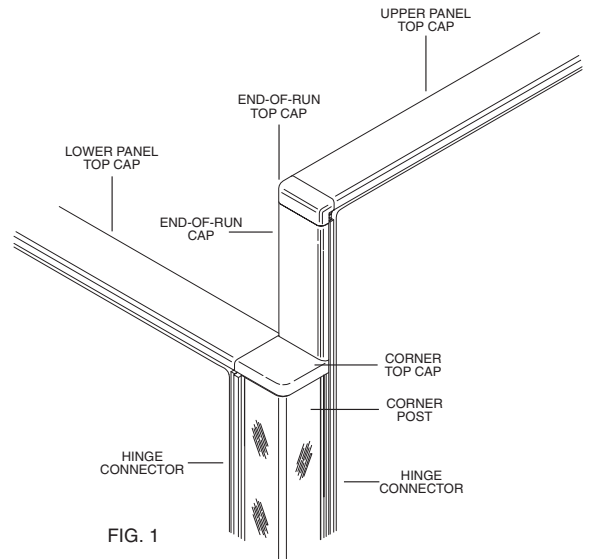

FIG. 1
5. Put the upper panel top cap and end-of-run top in place (Figure 1).